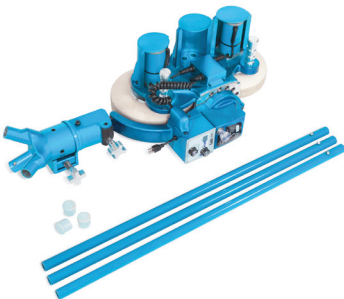

Figure 4. Machine flat on ground
1. With the machine flat on the ground, attach legs by inserting pinned end of legs (3 total) into base until pins are completely engaged (see Figure 4 and 4a. below)